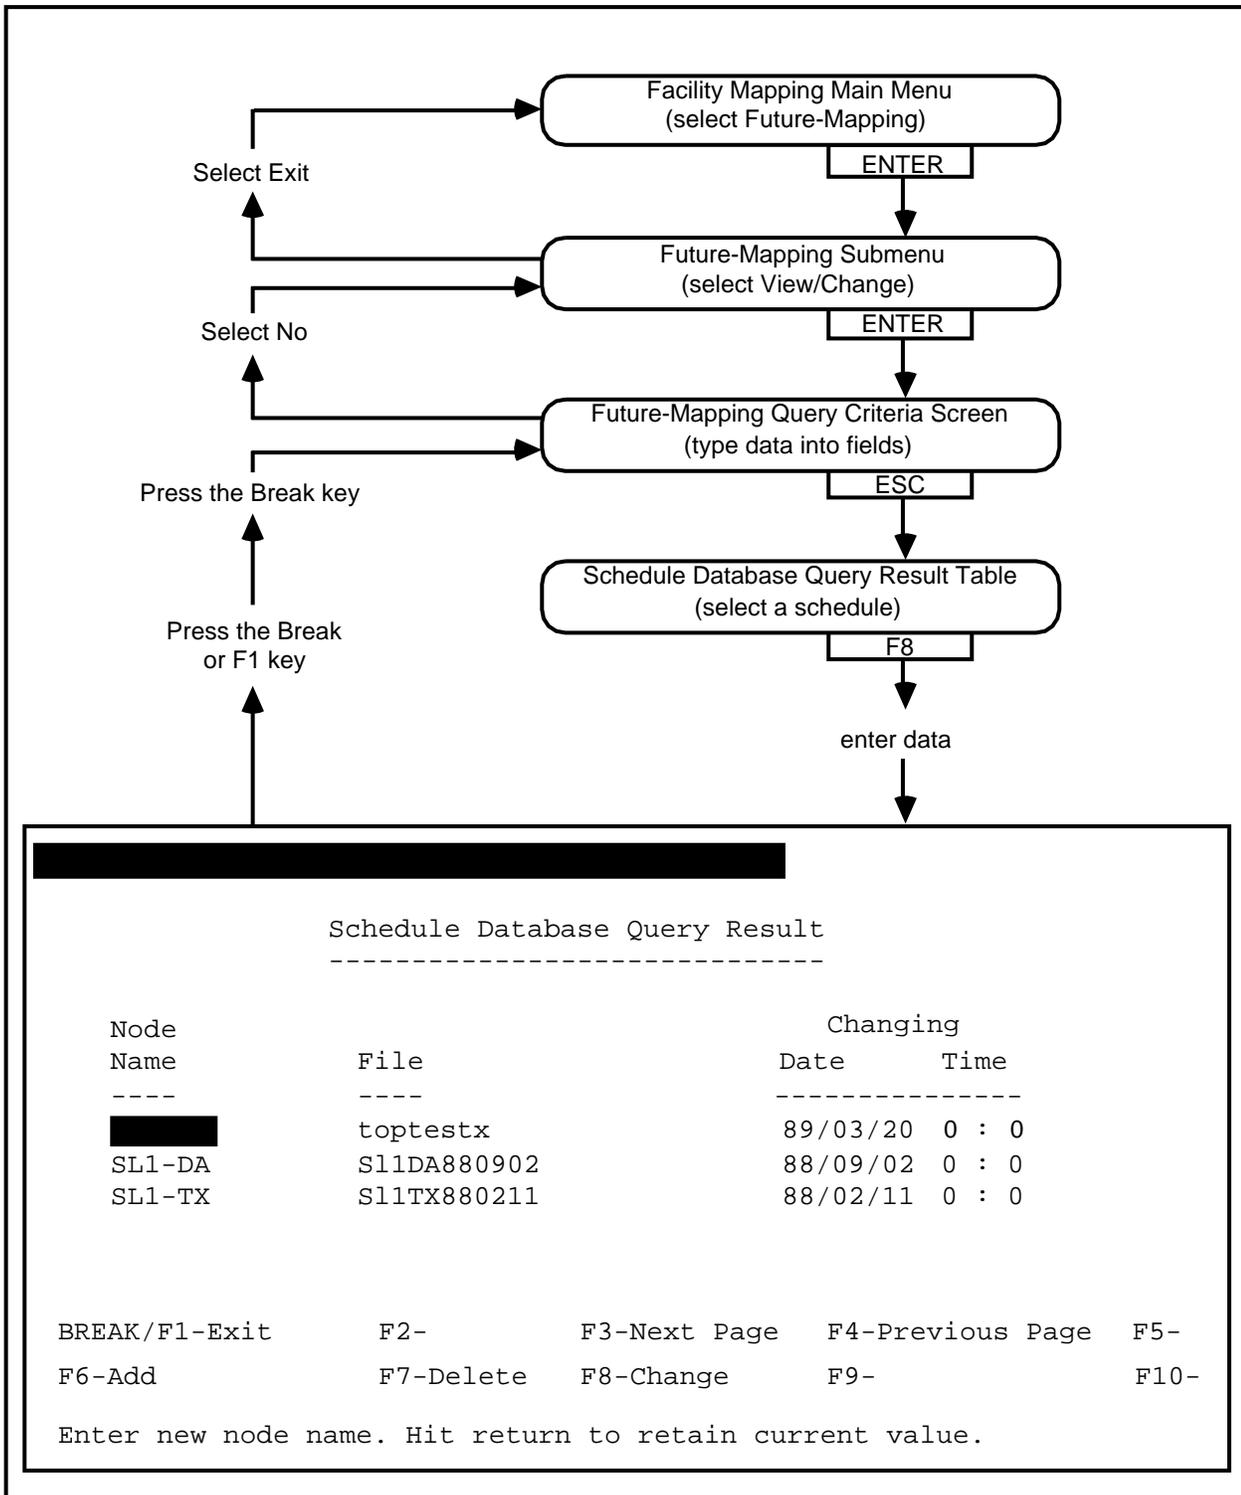

Fig. 7-11
7.26 The Procedure for Changing a Mapping Schedule. To change a facility mapping (see Fig. 7-11) proceed as follows: